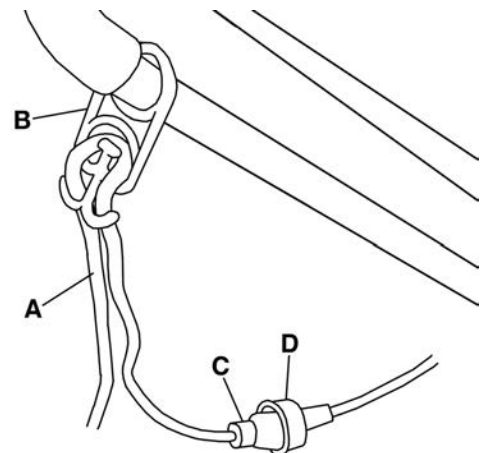

FIGURE 3
To prevent the extension cord (A) Fig.3 from disconnecting during use, lock the extension cord in the cord retainer (B) as shown before connecting the tools plug to an extension cord.
Plug the female end of the extension cord (C) Fig.3 into the tool's polarized plug (D).